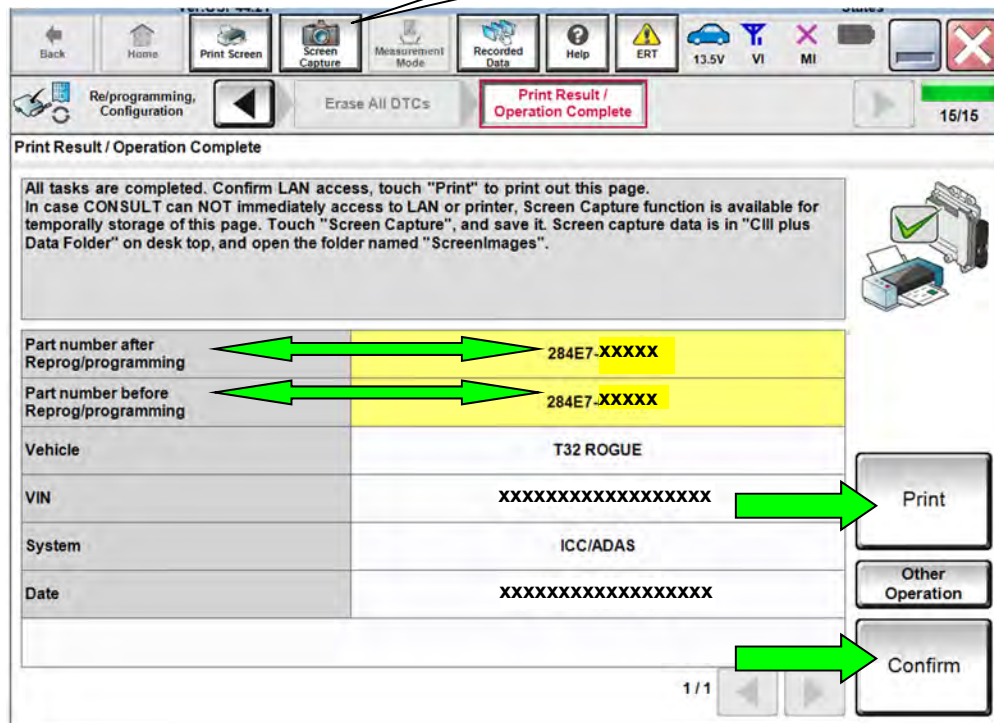

Figure 32
51. When the entire reprogramming process is complete, the screen in Figure 32 will display.
53. Print a copy of the screen shown below (Figure 32) and attach it to the repair order for warranty documentation.